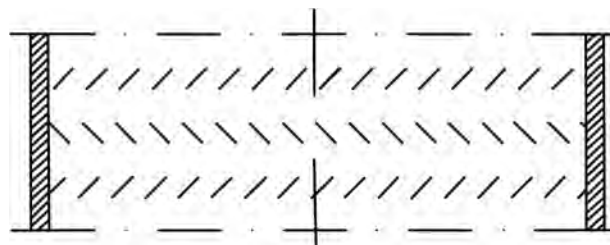

FIGURE 16.22 Typical arrangement of horizontal expanded metal sheets with opposing angles.
- In the arrangement, shown in Figure 16.22, liquid from sheet above drips onto the sheet oppositely arranged and breaks up, increasing turbulence for effective mass transfer, particularly for liquid film controlled systems.